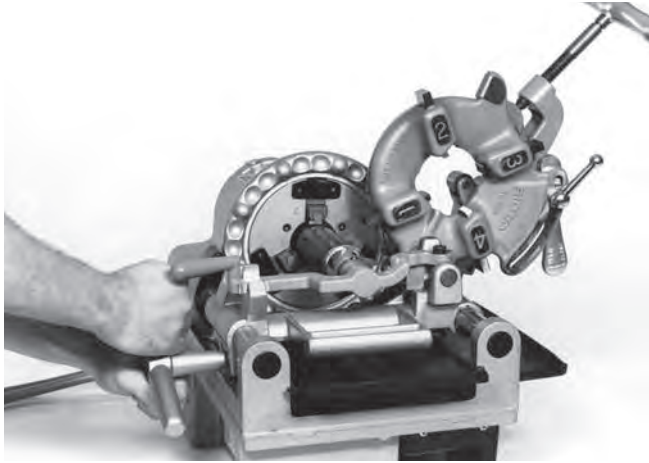

Figure 5 – Reaming Pipe with No. 344 Reamer
6. Grasp the pipe cutter's feedscrew handle with both hands (*Figure 5*).
3. Position reamer into pipe and complete reaming by exerting pressure on handwheel (*Figure 5*).